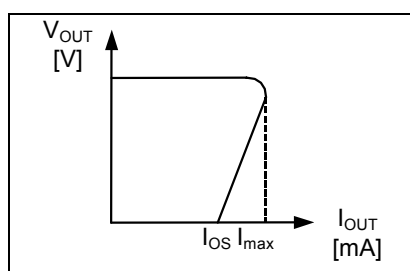

Figure 18
The S-87x Series has a built-in short-circuit protection circuit to protect the element from break caused by a large current in case of a short circuit. The output short current is internally limited to approx. 70 mA. Short-circuit protection circuit has three kinds characteristics according to input voltage (V_{IN}) as shown in **Figure 18 to 20**.
- (1) At the time of voltage detection, the voltage regulator is shutdown and load current is cut. Therefore, VIN pin voltage increases by $\Delta V_{IN} = I_{IN} \times R_{IN}$, where the current flowing into R_{IN} is set to I_{IN} . Hence, if ΔV_{IN} exceeds hysteresis width (V_{HYS}), oscillation starts immediately after detection and continues. It is necessary to set ΔV_{IN} less than V_{HYS} .
- (2) At the time of voltage release, the voltage regulator is powered on and load current flows. Therefore, if ΔV_{IN} exceeds hysteresis width (V_{HYS}), oscillation starts immediately after release and continues. It is necessary to set ΔV_{IN} less than V_{HYS} . Also at the time of voltage release, the rush current to charge output capacitor (C_{OUT}) flows. Hence, oscillation momentarily starts until the output of regulator (V_{OUT}) rises high enough even though ΔV_{IN} is set less than V_{HYS} . But Short-circuit protection circuit controls the rush current less than I_{MAX} on Figure 18 to 20. If this momentary oscillation is a problem in your applicaion, setting R_{IN} less than V_{HYS}/I_{MAX} prevents oscillation.